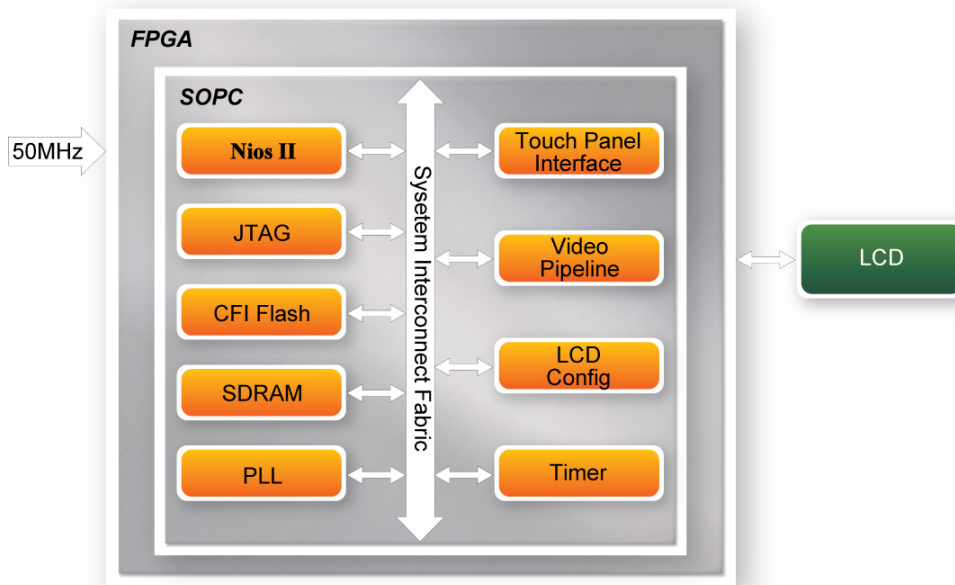

Figure 4-2 Block diagram of the VEEK Starter demonstration
**Figure 4-2** shows the hardware system block diagram of this demonstration. The system is clocked by an external 50MHz Oscillator. Through the internal PLL module, the generated 100MHz clock is used for Nios II processor and other components, and there also a 40MHz pixel clock for the video pipeline and 10MHz for low-speed peripherals. The Nios II CPU runs the application software and controls all the peripherals. A scatter-gather DMA is used to transfer pixel data from the video buffer to the video pipeline.